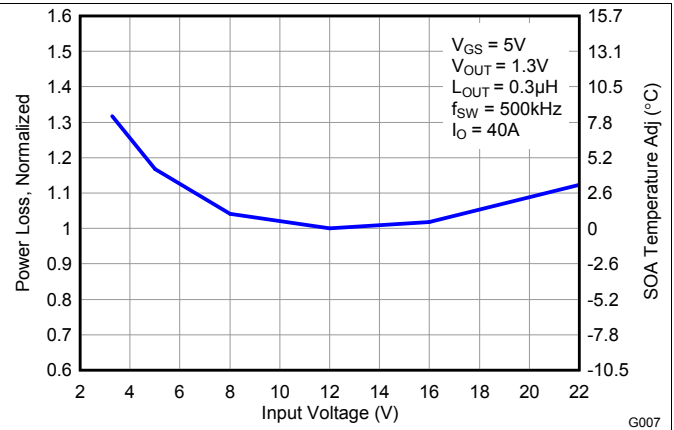

Figure 7. Normalized Power Loss vs Input Voltage
- Normalized power loss for input voltage  $\approx 1.07$  (Figure 7)
- SOA adjustment for input voltage  $\approx 2^\circ\text{C}$  (Figure 7)